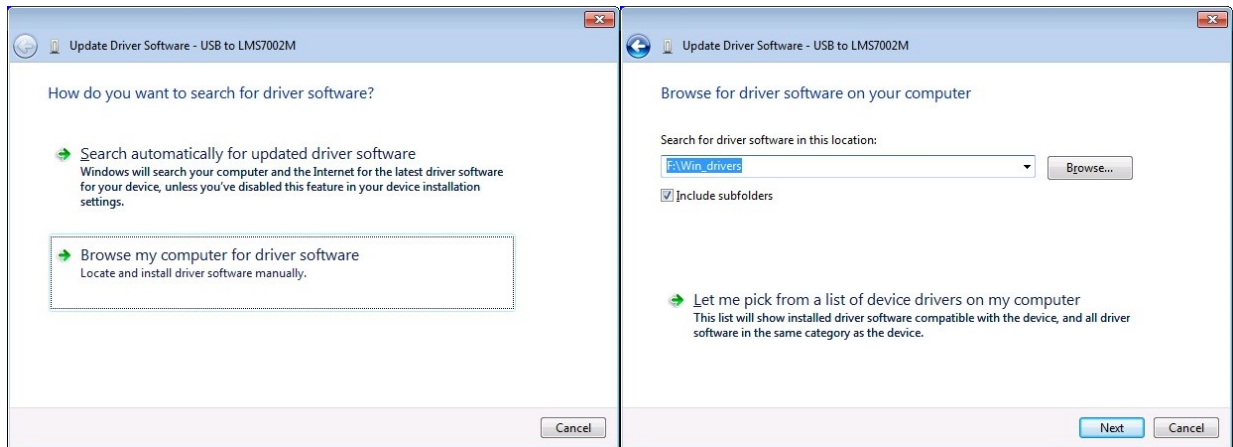

Figure 44 Locate USB driver.
5. Select **Browse my computer for driver software**, locate the driver provided with the kit and press **Next**, see *Figure 44*.